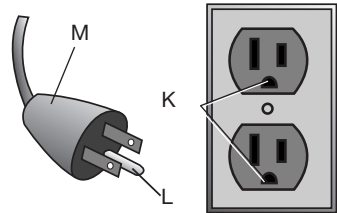

FIG. 4
FITTING THE WHEELS (FIG. 4)
1. Insert the bolt through the wheel and bracket as shown in Fig. 4.